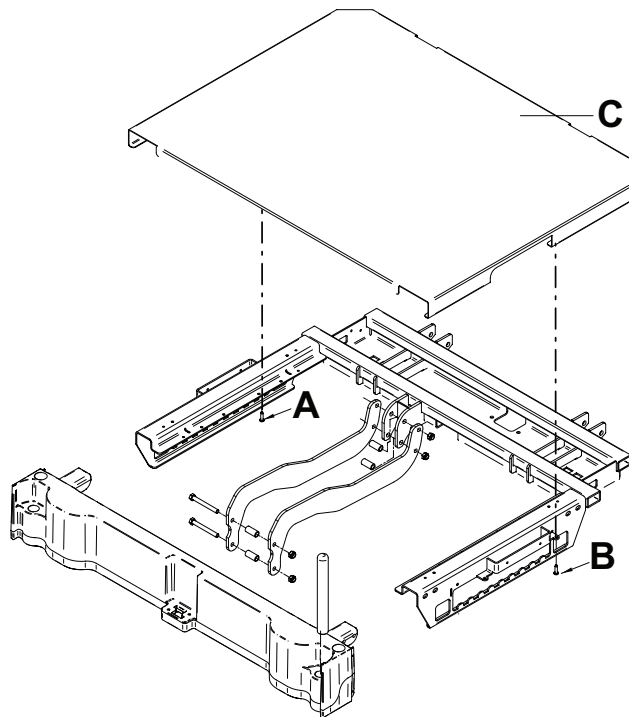

Figure 68 – Remove the cover
5. Using a #2 Phillips screwdriver, remove the two screws (A and B) that secure the electrical cover (C) (Figure 68). Remove the cover. Save the screws.